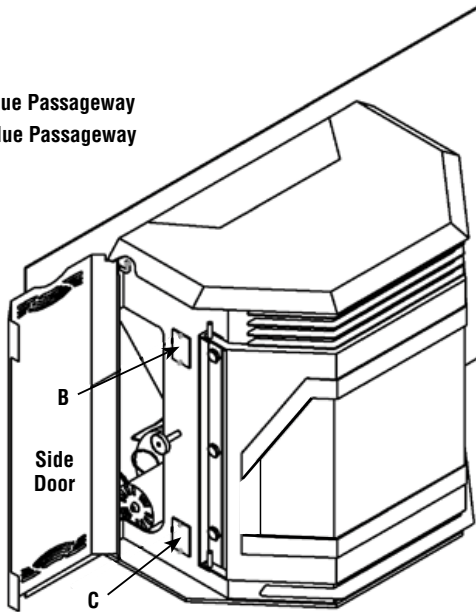

Figure 36A
On each side of the insert there are two access covers (see B and C in **Figures 36A and 36B**) that can be removed by unscrewing the two 5/32" allen head screws. Insert a cleaning brush in the openings to loosen any ash build-up and use an approved ash vacuum cleaner to remove the loosened ash. Reinstall the covers when cleaning is complete.
1. Open both the right and left side door to locate side flue passageways (see **Figure 36A**).
2. There is one upper and one lower, 1" x 2", flue passageways on both the left and right sides (see **Figures 36A, 36B and 36C**).